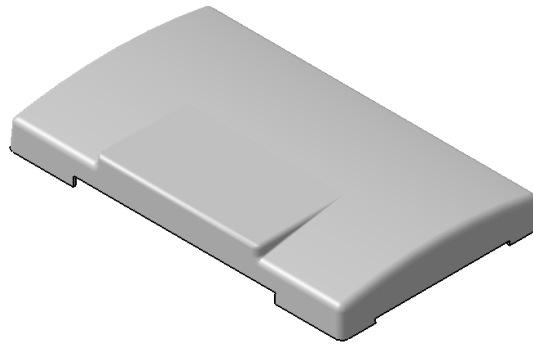

Figure 6-105 Final model after creating the remaining features
- f. Create two pocket features to complete the model, refer to Figure 6-105.
4. Use the **Pocket** tool to create two pocket features. The final model, after creating the other two features, is shown in Figure 6-105.